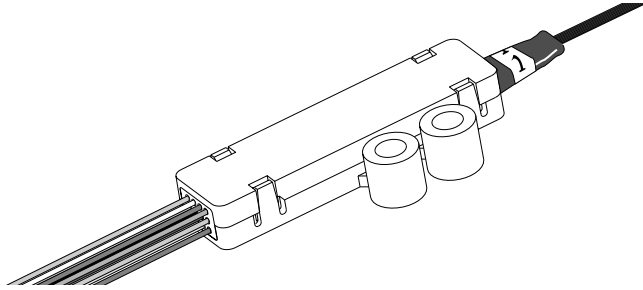

Figure 23
8.7 To aid in the identification and maintenance of the fan-out assemblies, use numbered wire markers to individually identify each fan-out with respect to its ribbon number (Figure 23).